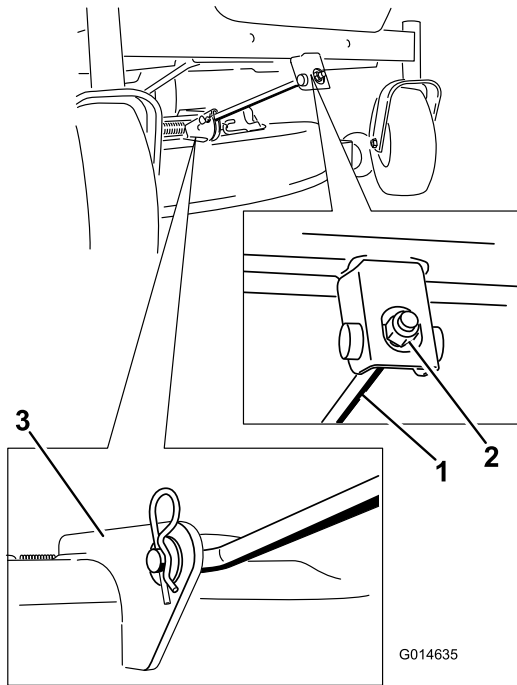

Figure 71
5. Remove the hairpin cotter from the front support rod, and remove the rod from the deck bracket (Figure 71).
6. Attach the front support rod to the mower deck with the clevis pin and hairpin cotter (Figure 71).